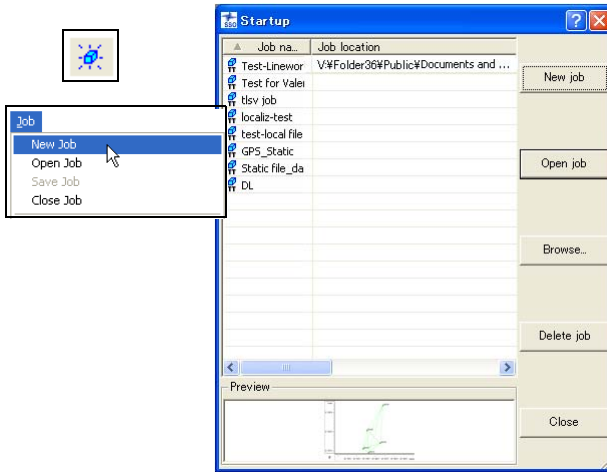

Figure 2-2. Ways to Create a New Job
1. To create a new job, click one of the following (Figure 2-2):